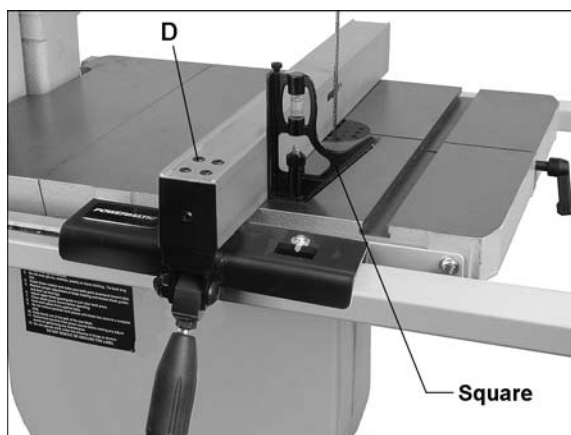

Figure 31
Refer to Figure 31.
3. Place a square on the table and against the fence, as shown in Figure 31.
7. Check that the fence is aligned with the blade; that is, it contacts front and back of blade evenly. If the fence does not align with the blade, loosen the four *socket head cap screws* (D, Figure 31).
1. With the fence now aligned with the blade, and still contacting the blade as shown in Figure 31, check to see that the *pointer* is aligned with zero on the guide rail scale.